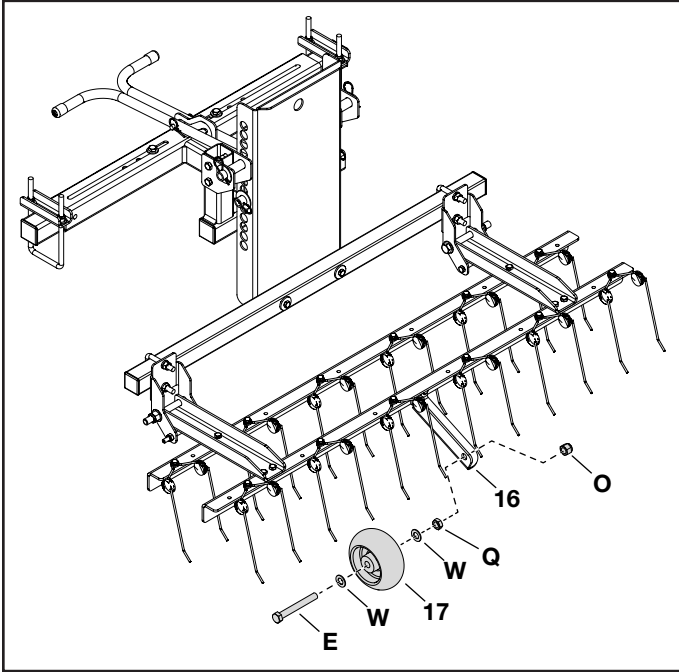

FIGURE 14
STEP 14: (SEE FIGURE 14)
- Attach the wheel (17) to the wheel mount bracket (16) using a hex bolt (E), two washers (W), a hex nut (Q), and a Nylock hex nut (O). Make sure longer wheel hub is facing the wheel mount bracket (16).